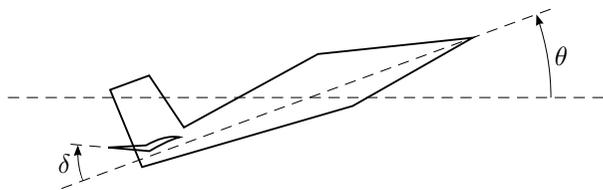

Figure 3.8a
3.8 Consider an aircraft where the pitch angle θ is controlled by the elevator deflection (Swedish: *höjdroderutslag*) δ , see Figure 3.8a. Let ω be the angular velocity,